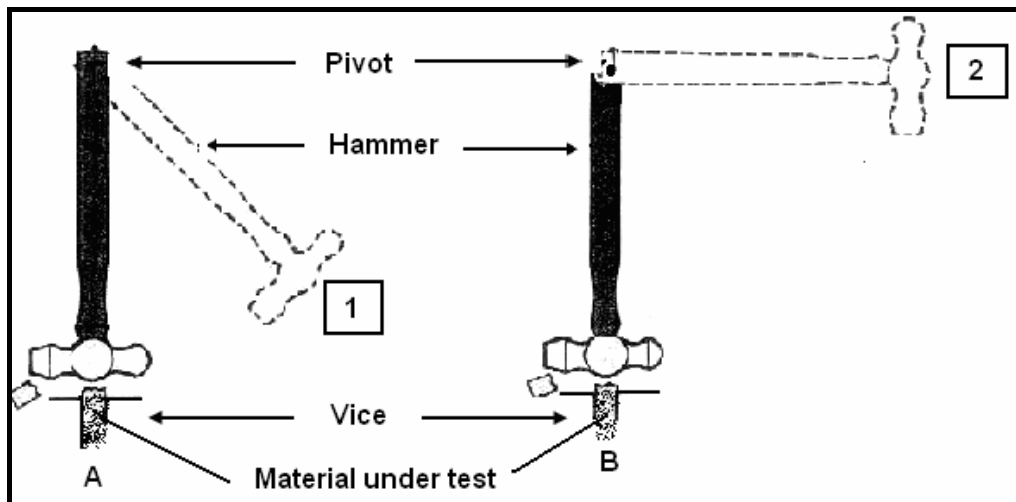

FIGURE 4.3
- 4.3 Two test pieces, A and B, are tested for their toughness as shown in FIGURE 4.3 below. After a single hammer blow test piece A broke from hammer position 1. Test piece B only broke after the hammer was moved to position 2. Refer to the hammer position and explain which one is the toughest.